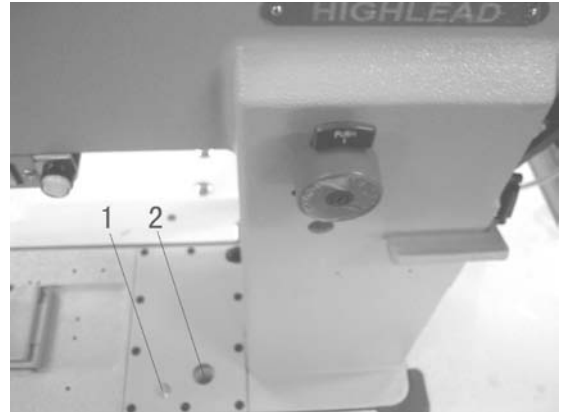

Fig.17
- (1) Check the oil level at the sight glass 2 of Fig.17 every week. If the oil is not enough, remove oil-filling screw 1 and pour in oil. Check oil level at sight glass 2. The oil level must be between “EMPTY” and “FULL”. Replace oil-filling screw 1. After running for 500 hours since buying the new sewing machine, the oil must be changed. Then change the oil every two years.